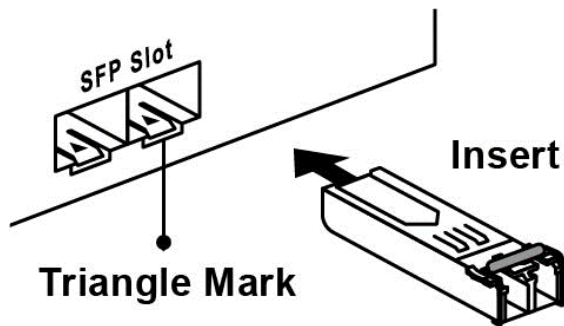
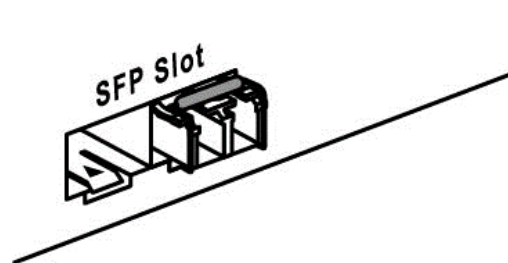

Figure 2.5: Transceiver to the SFP Module
Figure 2.6: Transceiver Inserted
Step 1. Insert the SFP transceiver module into the SFP slot as shown below in Figure 2.5. Notice that the triangle mark is at the bottom of the SFP slot. Figure 2.6 shows SFP transceiver module was inserted.